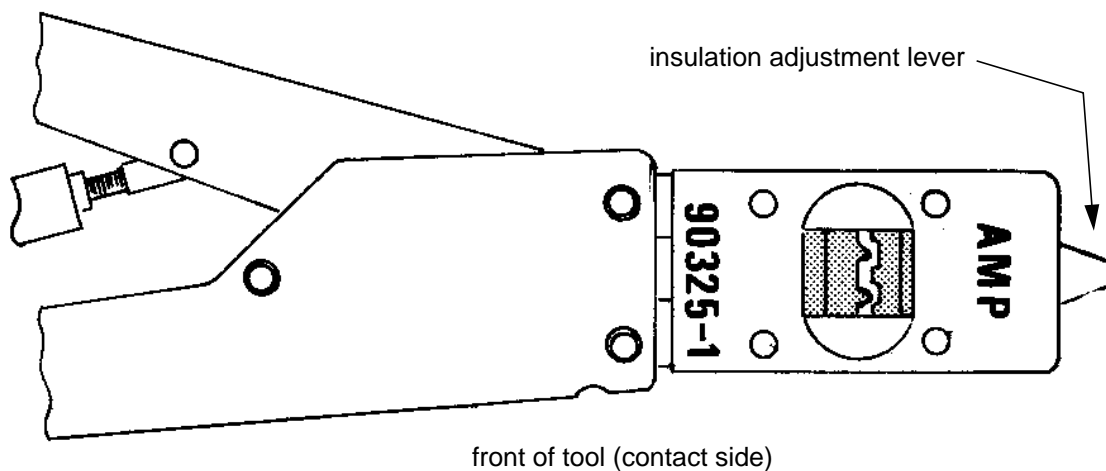

Figure 3 - Tyco (AMP) Crimp Tool
- 4.2.1 Crimping tools, hand operated, for MR contacts as specified in Table 1 (see Figure 3). Only tools qualified according to section 6.2 may be used for crimping production parts.